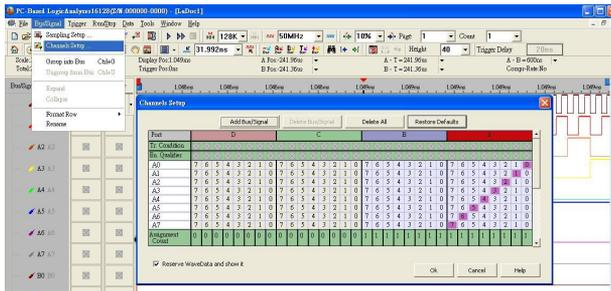

Fig 3-21 – Channel setup
Click Channels setup on Bus/Signal of menu bar, or click  icon. The dialogue window shown in Fig 3-21 will appear.
3. Restore Defaults, click Restore Defaults to restore the dialogue of Channels Setup as shown in Fig 3-21.